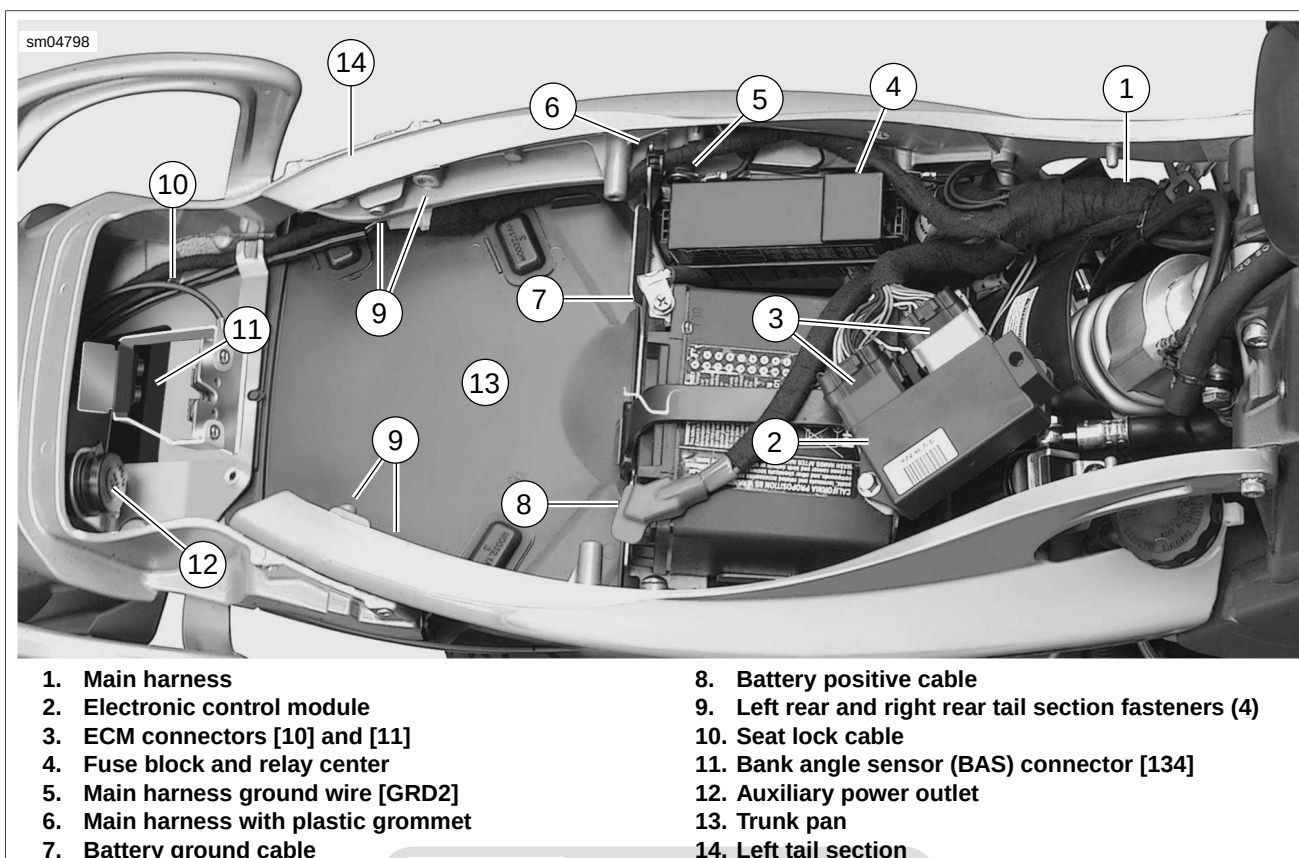

Figure 2-171. Main Harness and Electrical Components Under Seat: Ulysses
2. See Figure 2-171. Disconnect battery cables from battery: negative cable (black) first.
5. See Figure 2-171. Disconnect ECM connectors (4) [10], [11] and [164].
- a. Remove ECM (3).
- c. Disconnect and remove Bank Angle Sensor (2) [134].
- d. Remove fuse block and relay center (5).
- e. Remove main harness and plastic grommet (7) from battery pan.
- a. See Figure 2-171. Remove the two fasteners securing the preload adjuster to the trunk pan (13).
1. See Figure 2-171. Install trunk pan assembly (13) from left side of vehicle.
4. Install left tail section (14) onto vehicle.
- b. Install fuse block and relay center (5).
- c. Install main harness and plastic grommet (7) into battery pan.
- d. Install bank angle sensor (2), connect and tighten fastener to 12-36 **in-lbs** (1.3-4 Nm).
7. See Figure 2-171. Connect ECM connectors (4) [10], [11] and [164].